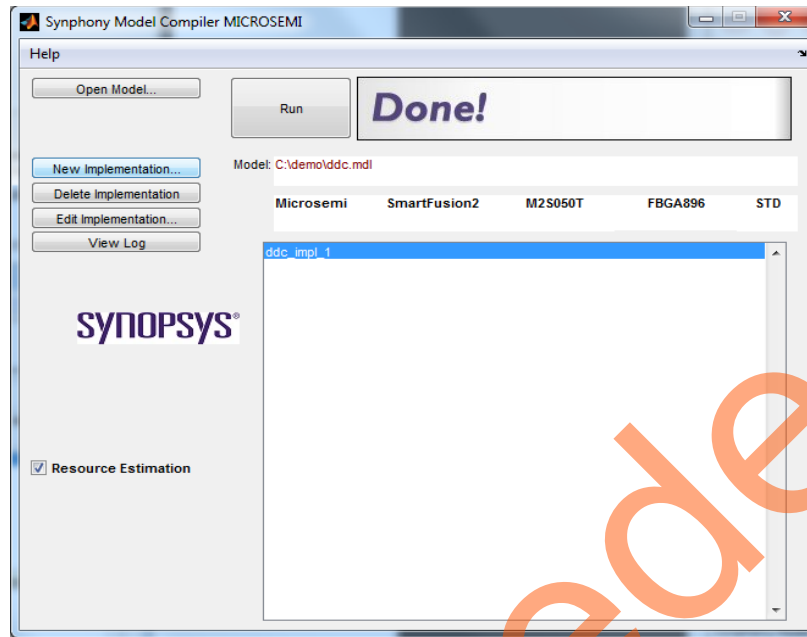

Figure 10. Run Symphony Model Compiler
13. Click **Run** to run synthesis with the Symphony Model compiler, as shown in Figure 10.